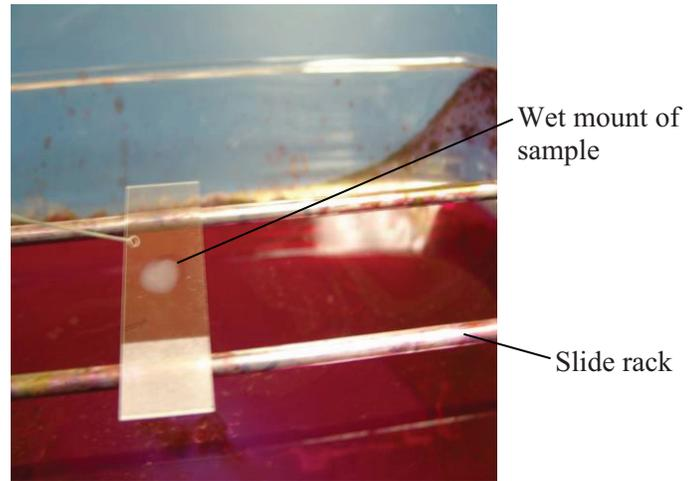

Figure 2: Spreading sample colony thin film
- 9.2. Figure 2: Spreading sample colony thin film